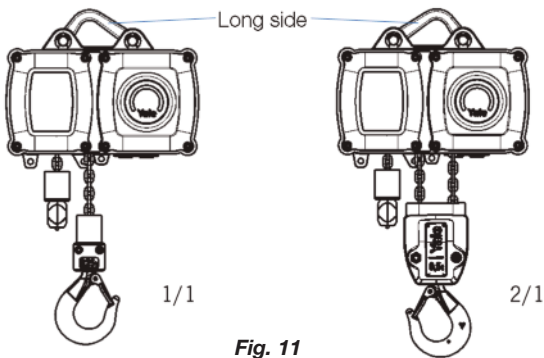

Fig. 11
On single fall units, the suspension bracket is installed with the long bracket side to the right, on dual fall units with the long bracket side to the left (see Fig. 11).
1. Unscrew the locking nuts (item 9) and hex. nuts (item 2) from the crossbars (item 1) and remove both side plates (item 6) from the trolley.
2. Measure flange width of the beam (Fig. 11-measurement "b").
3. Adjust measurement "B" between the shoulders of the round nuts (item 5) on the threaded crossbars (item 1). Ensure that the 4 bores in the round nuts face towards the outside. Adjust the measurement "B" to equal measurement "b" plus 4mm. Measurement "A" must be 2 mm on either side and the suspension traverse (item 4) must be centred between the round nuts.
4. Replace one side plate (item 6), ensuring that the roll pins (item 10) engage into one of the bores in the round nuts (item 8). To achieve this, it may be necessary to rotate the round nuts slightly.
5. Replace the washers (item 3) and tighten the hex. nuts (item 2). Screw on the locknuts (item 9) fingertight and tighten a further 1/4 to 1/2 turn. **Attention:** The locknuts must always be fitted.
6. Loosely replace the second side plate (item 6) on the cross bars (item 1). The washers (item 3), hex. nuts (item 2) and locknuts (item 9) can be fitted loosely.